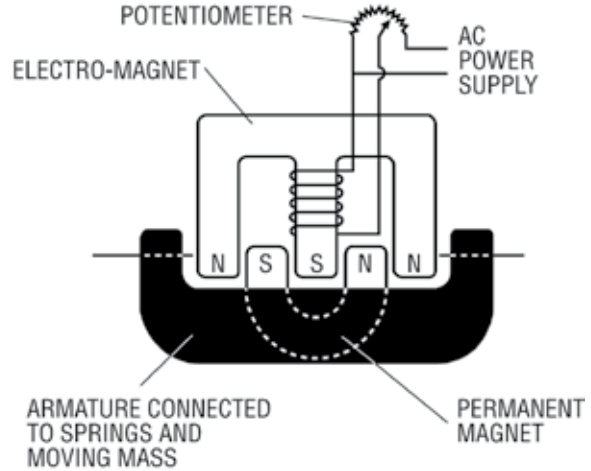

Figure 15: Drive Circuit
6. Then move assembly to table & separate the armature from the armature adapter in Figure 15.